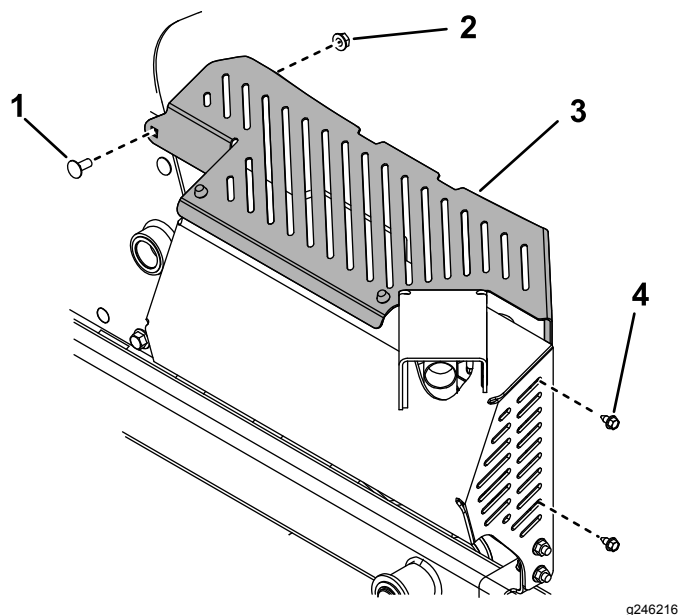

Figure 27
11. Remove the heat shield (Figure 27).